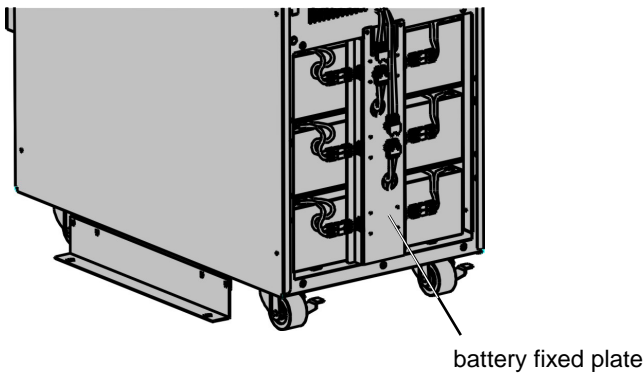

Fig. 8-2 Easy for Battery Replacement -Step 2
- 2) Disconnect the battery pack DC connectors and remove the battery fixed plate. See Fig. 8-2.